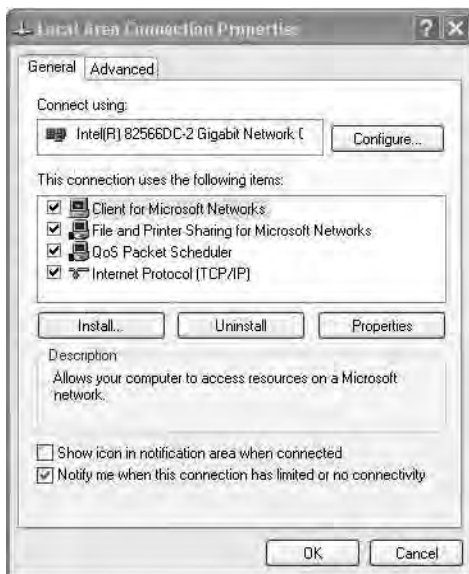

Figure 5: Local Area Connection Properties Window
4. Select **Internet Protocol (TCP/IP)** (see Figure 5).